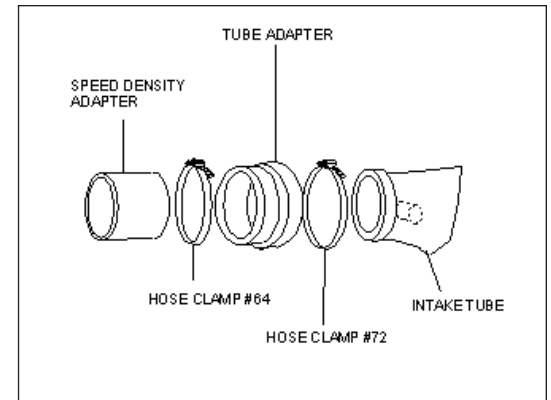

fig. 2
- 10) Assemble the intake tube, tube adapter and speed density adapter (as shown in fig. 2). 94-97 models - disregard the speed density adapter which is necessary for 93 models only.